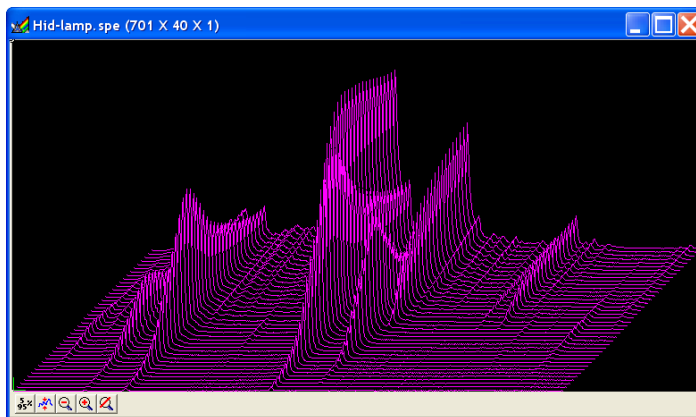

Figure 50. High Intensity Lamp Spectrum
5. Either double-click on the name of the file you want to open or single-click on the name and then click on the **Open** button. For example, with **3D Graph** selected, double-clicking on Hid-lamp.spe would open that file, producing the display shown in Figure 50. Note that there are many different ways of controlling how the image will be displayed, as described in